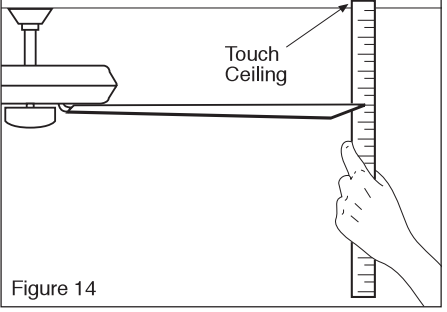

Figure 14
- Most fan wobble problems are caused when blade levels are unequal. Check this level by selecting a point on the ceiling above the tip of one of the blades. Measure this distance as shown in Figure 14. Rotate the fan until the next blade is positioned for measurement. Repeat for each blade. Measurements should be within 1/8 in.